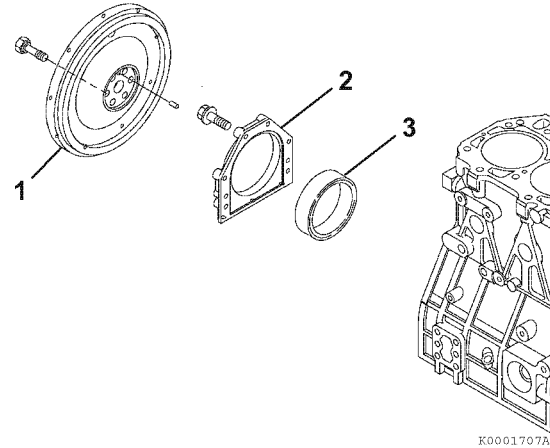

Figure 6-112
3. Remove the rear oil seal (Figure 6-112, (3)) from the seal housing (Figure 6-112, (2)).
4. Apply a continuous bead of ThreeBond Liquid Gasket No. 1212, YANMAR Part No. 977770-01212 to the outside diameter of a new oil seal (Figure 6-112, (2)), and install in the housing. Apply lithium grease to the lip of the seal.